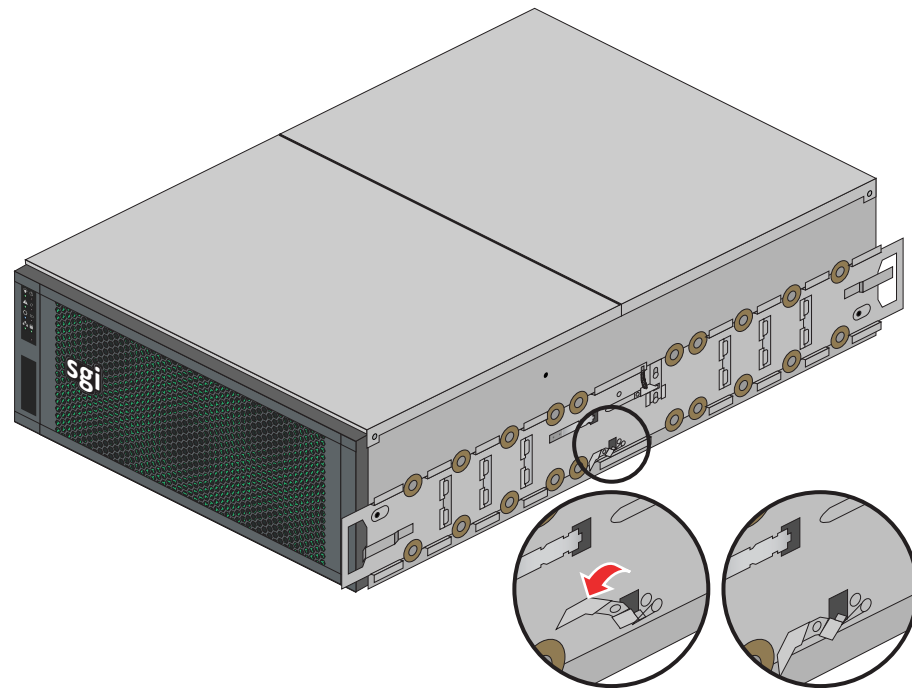

Figure 2-15 Return Latch to Home Position
5. You may have to move aside a safety latch in order to install some rolling rail screws. Be sure to set the safety latches back to their home positions after rolling rail installation is complete (see Figure 2-15 on page 33).